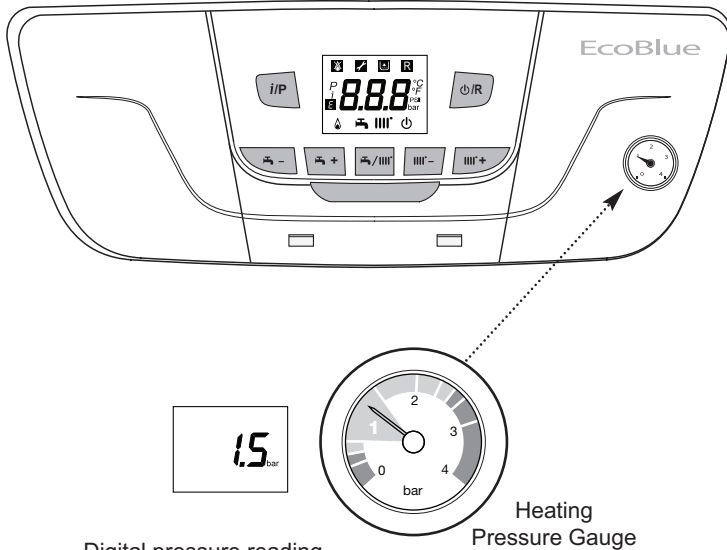

Fig. 38
6. Pressurise the system to 1.5 bar (Fig. 38) then close and disconnect the filling loop.